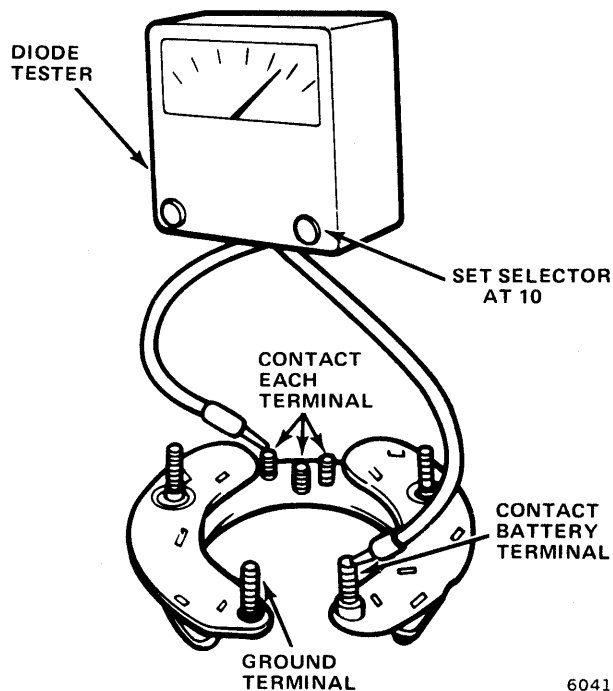

Fig. 3-15 Testing Positive Diodes
- (4) Test positive diodes by touching one lead to rectifier battery terminal and other lead to each stator lead terminal (fig. 3-15). Reverse leads to check diodes in other direction.